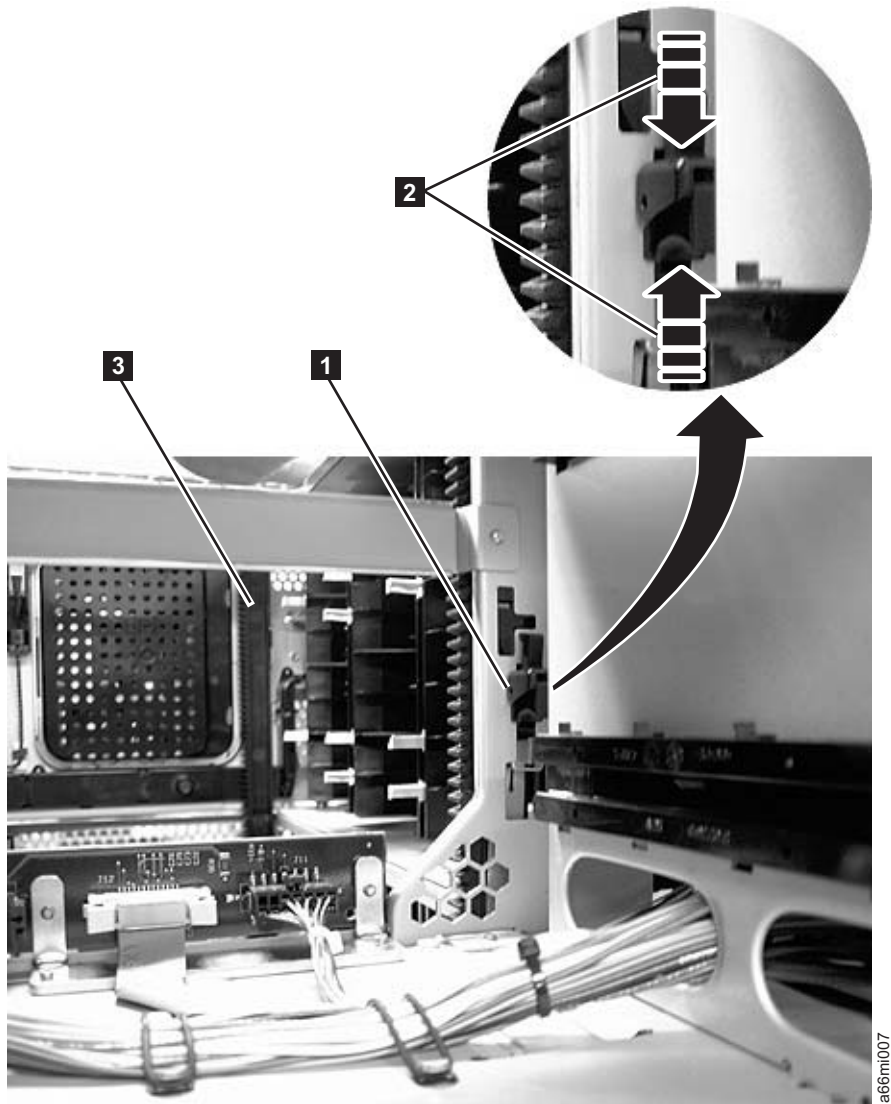

Figure 8-8. Gear racks and gear rack locking mechanism
12. Engage the rear (**1** in Figure 8-8) and front (**3** in Figure 8-8) gear racks in the control module. While pinching the gear rack locking mechanism (**2** in Figure 8-8), push the gear rack down until it locks in place and no gaps appear between the front and rear gear racks in the control module and expansion module.